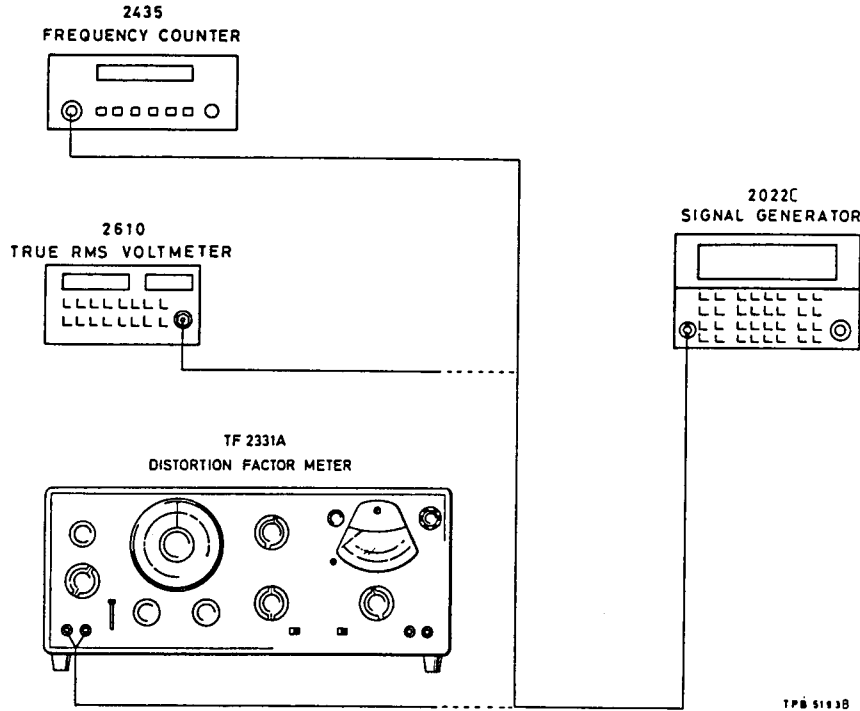

Fig. 5-4 Test gear arrangement to check Mod. osc. performance
- (1) Connect test equipment as shown in Fig. 5-4 and set the 2022C controls as follows:-